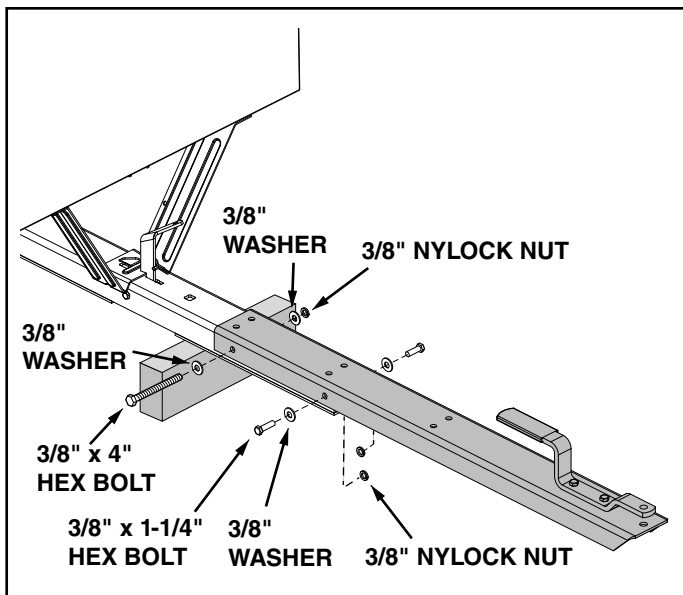

FIGURE 5
8. Assemble the front tongue on top of the rear tongue. In the front set of holes, attach using two 3/8" x 1-1/4" hex bolts, four 3/8" washers, and two 3/8" nylock nuts. In the rear holes use one 3/8" x 4" hex bolt, two 3/8" washers, and one 3/8" nylock nut. See figure 5.